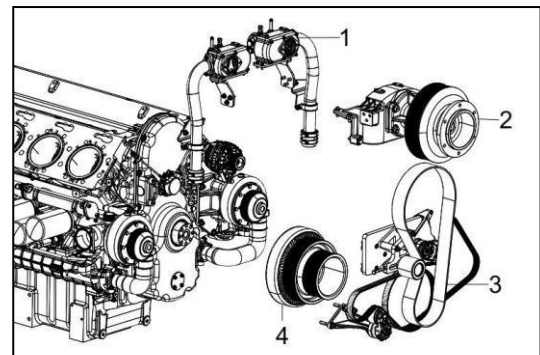

Figure 88
1. Remove the thermostat group (Figure 88, 1).
2. Remove the fan bracket group (Figure 88, 2).
3. Remove the tensioner and belt group (Figure 88, 3).
4. Remove the crankshaft pulley group (Figure 88, 4).